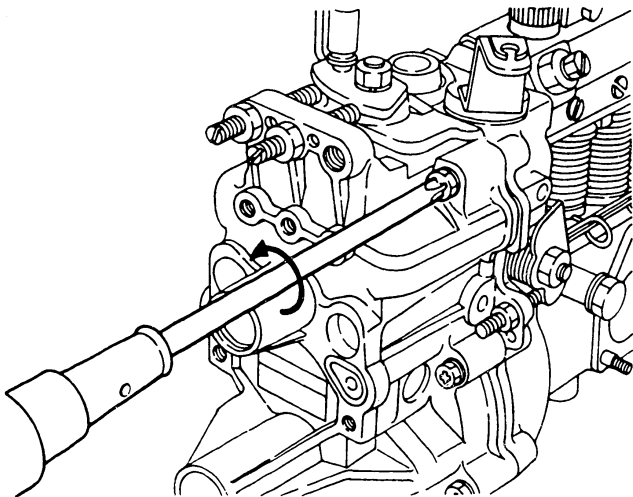

Fig. 103 Removing the governor cover assembly
- 3) Loosen the seven governor cover mounting bolts, then remove the governor cover assembly. (Fig. 103) Be sure to keep an oil pan under the governor to catch lubricating oil.